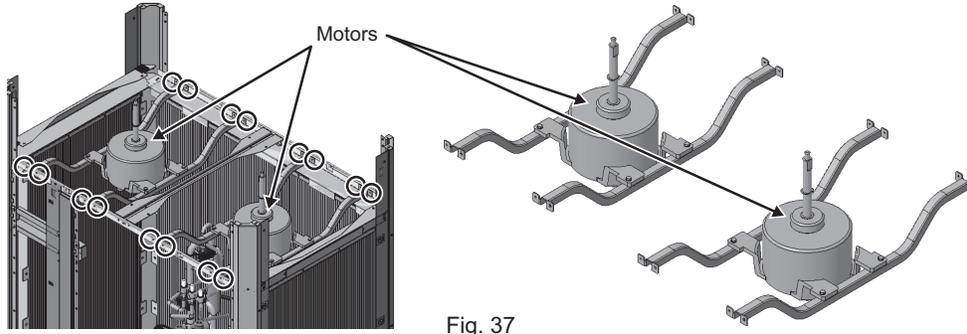

Fig. 37
(9) Remove the motors. (16 screws: Fig. 37)